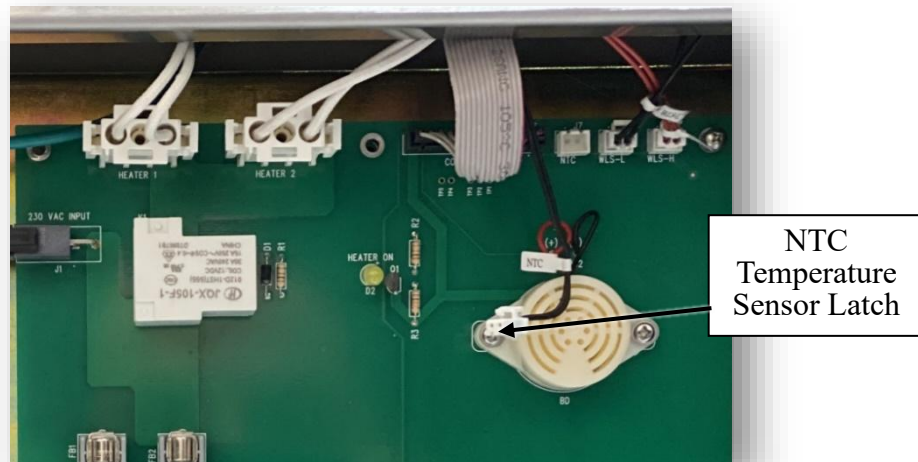

Figure 34 – Reseat the NTC Connector
- Reseat (unplug and plug back in) the NTC Connector on the PCB. The NTC Connector has a latch that must be depressed to unlock the connector from the slot. Press the latch with a thumbnail and pull the connector out of the slot. Press the connector firmly back into the slot and ensure it snaps in securely. (See Figure 34).